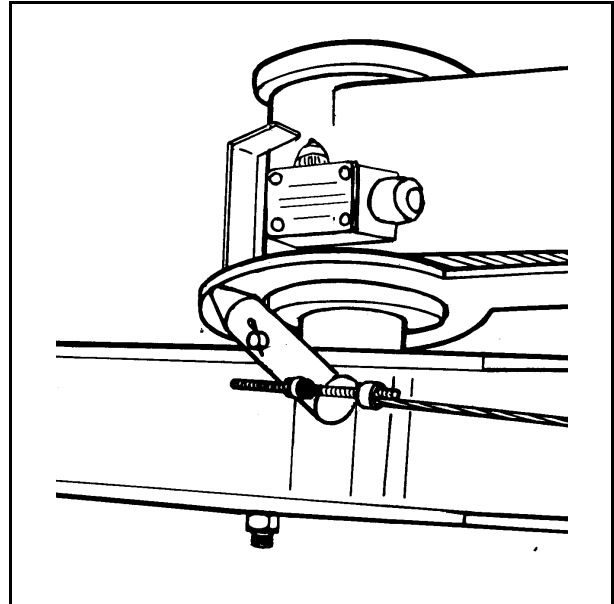

Fig. 5-2
- 5.4 This consists of a release guard which is connected by a wire to the lever arm, and this activates a small electrical switch via a sliding contact (14, fig. 5-2).